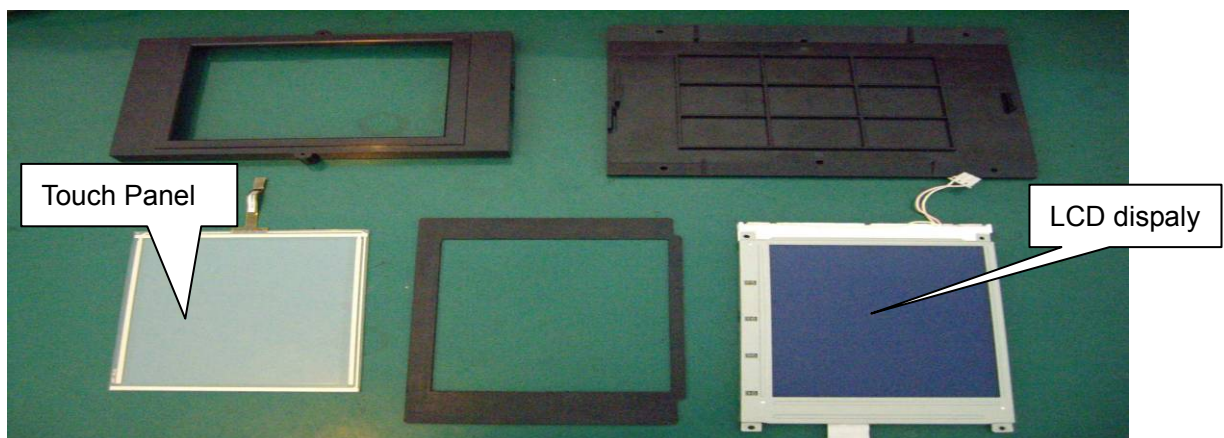

Figure 4-31
4. Components of screen module are as shown in Figure 4-31. Replace the touch screen/LCD with a new one of the same specifications, and reassemble the analyzer.